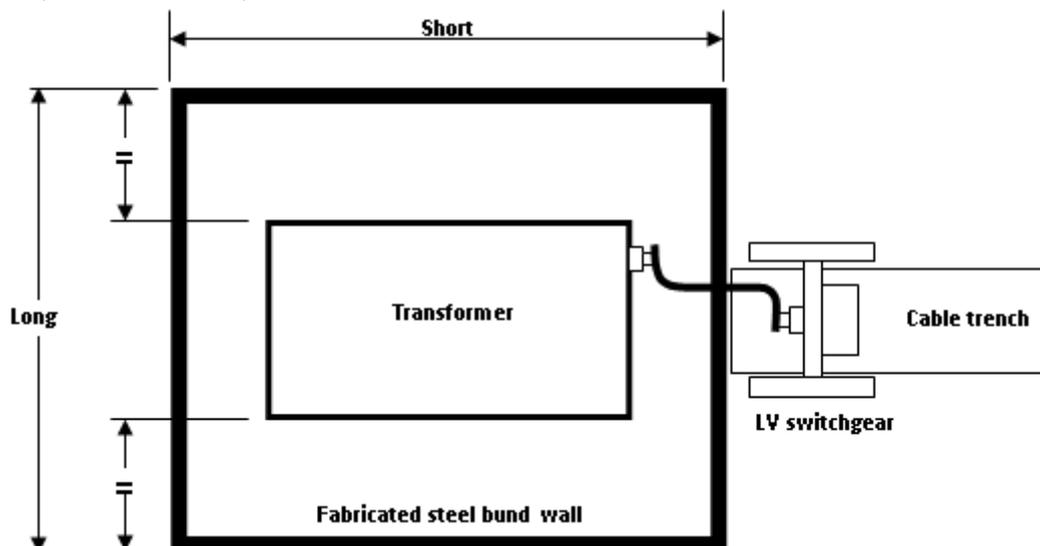
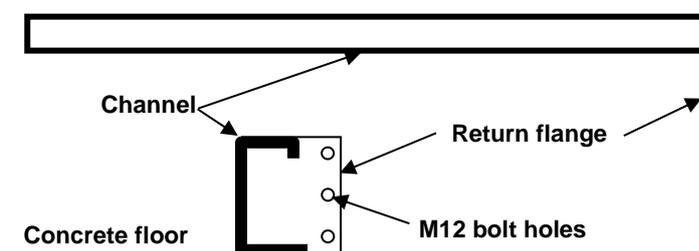

Figure 61 - Plan of bund wall position
Figure 62 - Bund wall fabrication steelwork detail
- 2) Partly assemble the four (4) sheet metal sections around the transformer, using two (2) M12 x 25mm bolts in the top and bottom holes (finger tight) on each section.
- 3) Position the partly assembled bund wall evenly around the transformer and as close to the low voltage switchgear as possible, without spanning the cable trench. Refer to Figure 61 - Plan of bund wall position and Figure 62 for location of the bund wall.
- 4) Using a pencil, carefully trace the position of the internal and external edges of the bund wall and the location of the eight (8) holes required for the anchors on the floor.
- 6) Drill all eight (8) holes in the floor to suit the hold down anchors.
- 9) Insert the eight (8) hold down anchors into the holes in the floor and place one (1) M6 setscrew near each of these anchors.